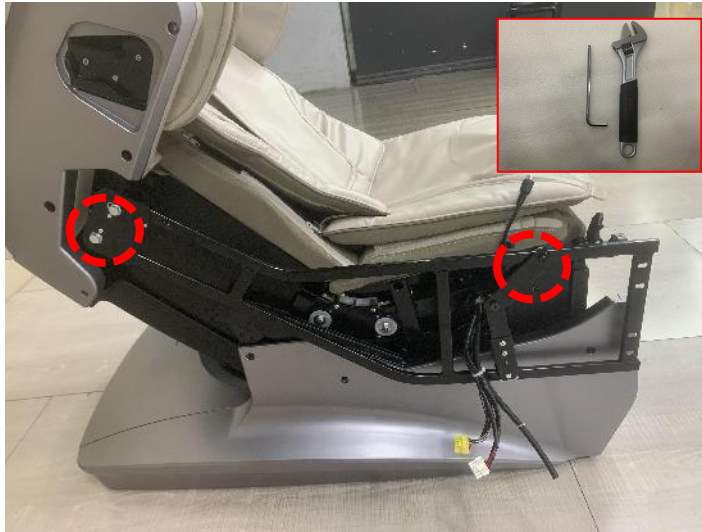

Figure 1
1. Disassembly of armrest mounting frame requires wrench and No.5 hexagon wrench (Figure 1)